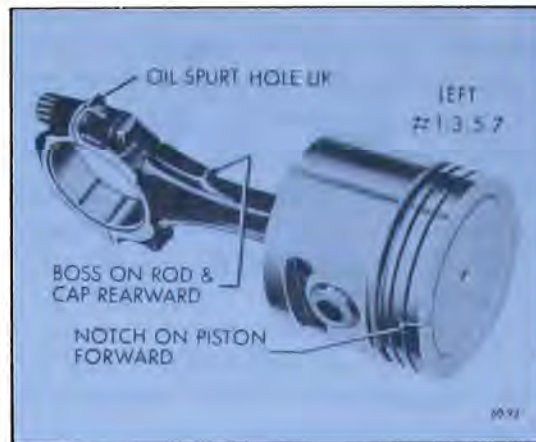

Figure 60-232—Left Bank Piston and Rod Assembly
2. If the piston and rod assembly is to be installed in the left bank, the assembly must be made as shown in Figure 60-232.
15. Install all other piston and rod assemblies in same manner. When piston and rod assemblies are properly installed, the oil spurt holes in the connecting rods will be "up" toward the camshaft, the rib on the edge of the rod cap will be on the same side as the conical boss on the connecting rod web, and these marks, (rib and boss) will be toward the other connecting rod on the same crankpin. See Figure 60-232 and 60-233.